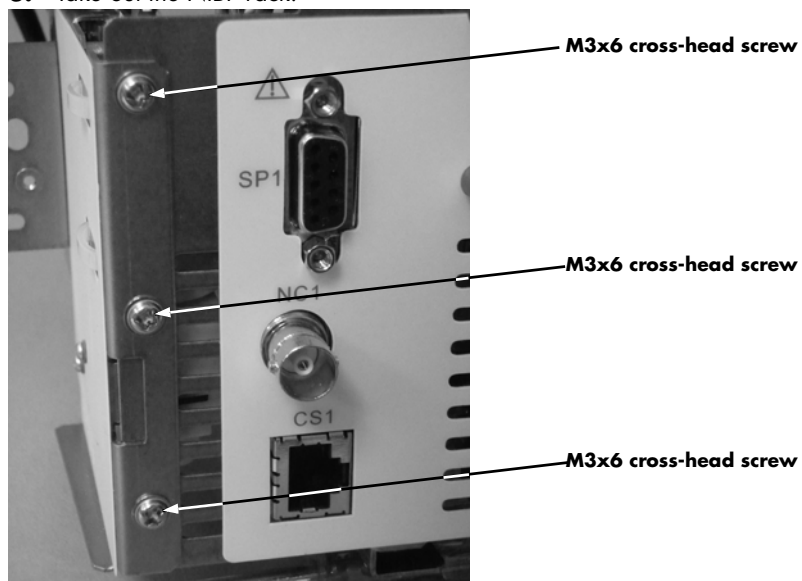

FIGURE 4-17 Remove three (3) M3x6 cross-head screws.
2. Remove the three (3) M3x6 cross-head screws (as shown in Figure 4-17).